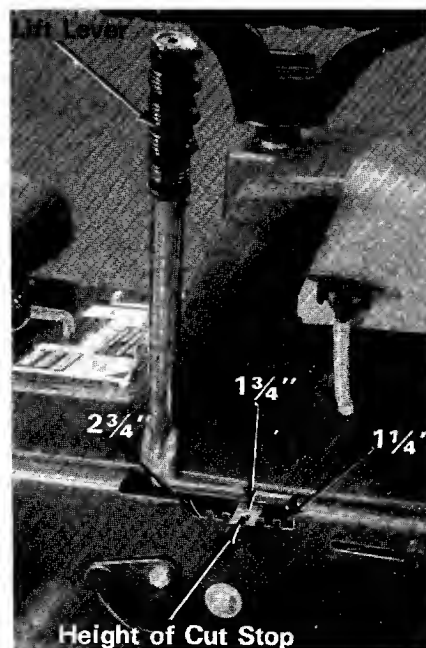

Figure 10
- 2 Using the height of cut stop, set the cutting height lever in the desired position. (See figure 10.)